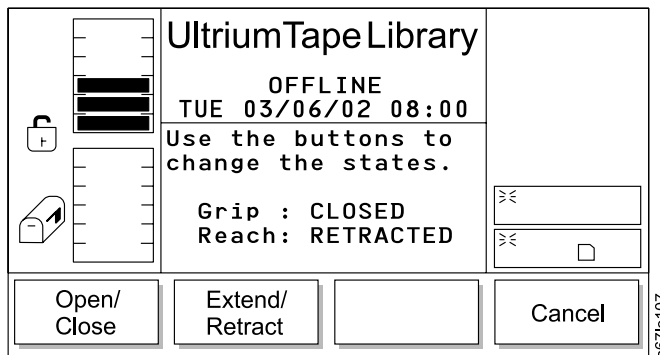

Figure 171. Picker Finger Dialog
- If **OK** is selected, the Picker Finger Dialog displays (see Figure 171).